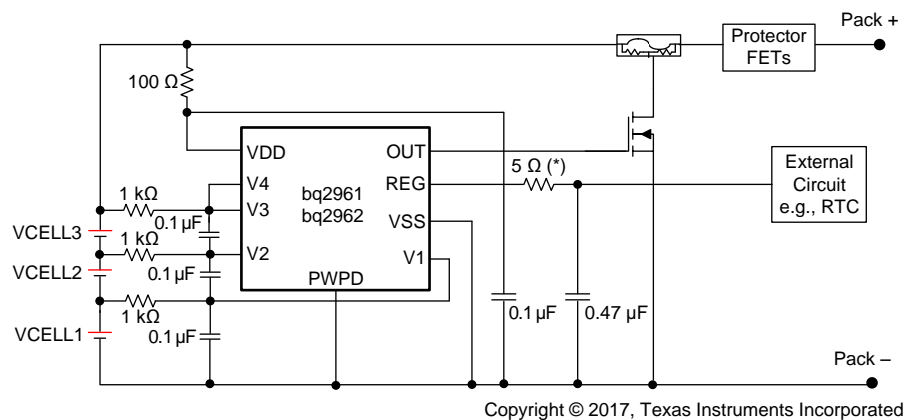
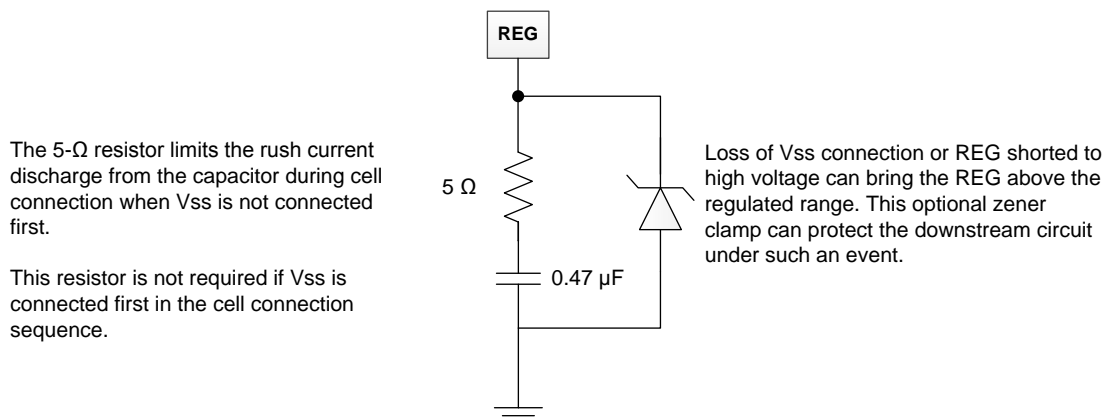

Figure 17. 3-Series BQ2961 and BQ2962 Schematic
Figure 18. 5-V Zener Diode
1. If the VSS pin cannot be connected first, it is required to add a resistor of a minimum of $5\ \Omega$ to a maximum of $10\ \Omega$ (a $5\text{-}\Omega$ resistor is used in the reference schematic, Figure 17) in series with the REG capacitor. When VSS is floating, the REG capacitor always charges up to the VDD voltage. When VSS is finally connected, the REG capacitor will be discharged. Adding a small resistor in series reduces the current strength and avoids any potential damage to the REG pin. The $5\text{-}\Omega$ resistor can be placed in series with the REG connect circuit (as shown in Figure 17) or in series of the REG capacitor (as shown in Figure 18). Placing the resistor in series with the REG circuit results in a small drop of V_{REG} (for example: max loading of I_{REG} mA with a $5\text{-}\Omega$ resistor will drop 5 mV on V_{REG}), but such a connection can protect again rush current discharge from a REG capacitor or an external filter capacitor connected to the REG pin. Placing the resistor in series with the REG capacitor is an alternative to avoiding an additional drop in V_{REG} if the filter capacitor used by the external circuit is much smaller than the REG capacitor.
3. The cell should be connected to the lower V_n pin; the unused V_n pin should be shorted to the (V_{n-1}) pin. See Figure 17 for details.
4. A zener diode can be added to the REG pin to VSS, as shown in Figure 18. This is recommended to protect the circuit connected to the REG pin if floating VSS in the field is a risk concern. When VSS is floating (during cell connection when VSS is not connected first or in a system fault with a broken BAT- wire), the REG voltage always pulls up to VDD. In a 4-series configuration, the REG voltage can reach approximately 16 V with VSS floating. Adding a zener diode clamps the REG voltage to a safe level for the external circuits connected to the REG pin. Having the zener diode can also protect the external circuits if the REG pin is shorted to the OUT pin or any other high-voltage output terminal. If a zener diode is used, TI recommends putting the diode on the battery side with the BQ296xxx device to allow protection on the REG pin, as well as the circuit connected to REG under the floating VSS condition. The resistor in series with the REG pin is not required in this case.